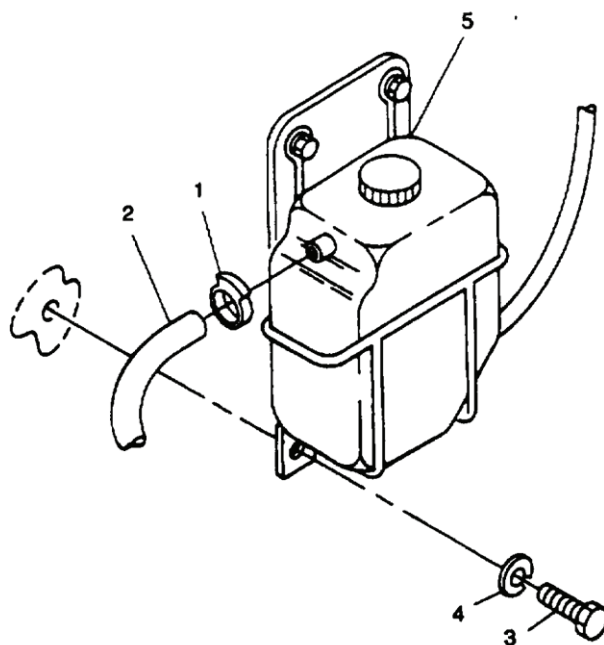

Figure 3. Overflow Bottle Assembly.
8. Remove filler hose and panel assembly (5) from generator set.
9. Cut wire ties (6) securing overflow hose (4) to upper radiator supports (7).
10. Remove clamp (Figure 3, Item 1) and disconnect hose (2) from overflow bottle assembly (5).
11. Remove bolts (3), lockwashers (4), and overflow bottle assembly (5) from right side of engine. Discard lockwashers (4).